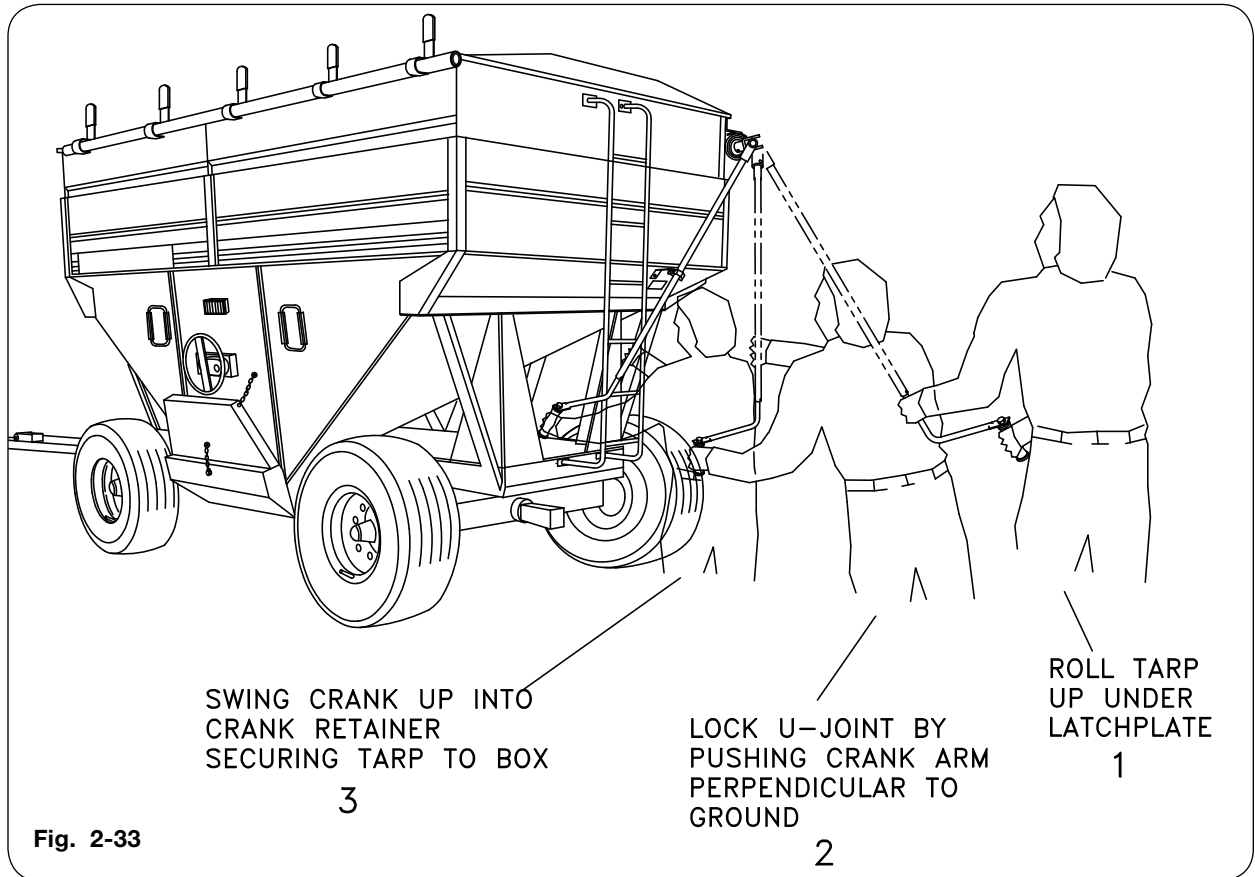

Fig. 2-33
16. Tighten tarp by holding the crank handle firmly with both hands and roll the main tarp tube counter-clockwise up under the latch plate. Next, bring the crank handle down perpendicular to the ground. Continue by lifting it up into the crank handle retainer. See Fig. 2-33.